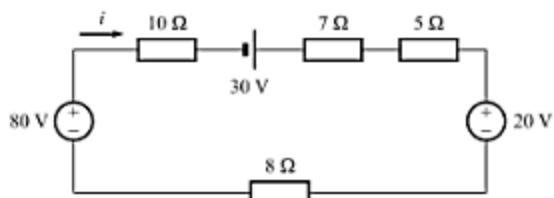

Fig. A-58
- A-9. Determine the current  $i$  and the power delivered by the 80-V source in the circuit of Fig. A-58.